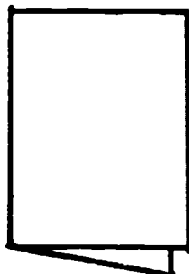

Figure 1
1. First, stack one of the concrete blocks on top of the other. Now hook the spring scale onto the skate. Lift the skate slowly until it is as high as the stack of concrete blocks. (Figure 1)